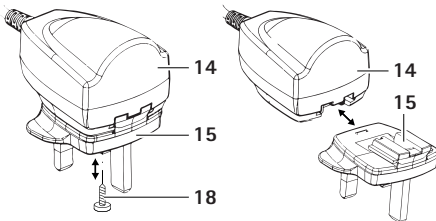

Fig. 3
- Loosen the fixation screw **18** in adapter **15**, see Fig. 3.
- Push the adapter **15** onto the power supply **14** until the lock **16** clicks into place, see Fig. 3.